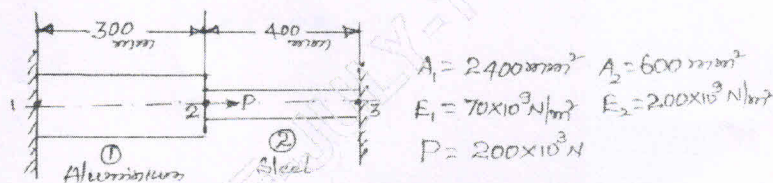

Fig.Q3(b)
b. A stepped bar as shown in Fig.Q3(b). Using Penalty approach for handling boundary conditions. Determine :